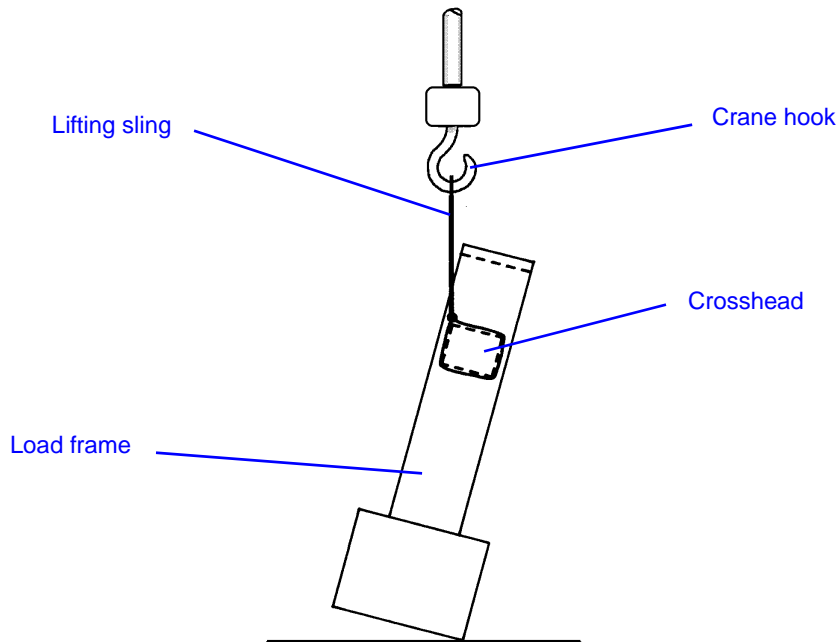

Figure 3-4. Lifting Load Frame with a Crane
1. Attach the two lifting slings to the crosshead and secure them to the crane hook as shown in Figure 3-4 on page 3-12. If you use chains in lieu of lifting slings, wrap protective material around the crosshead to protect the crosshead from scratching and marring.